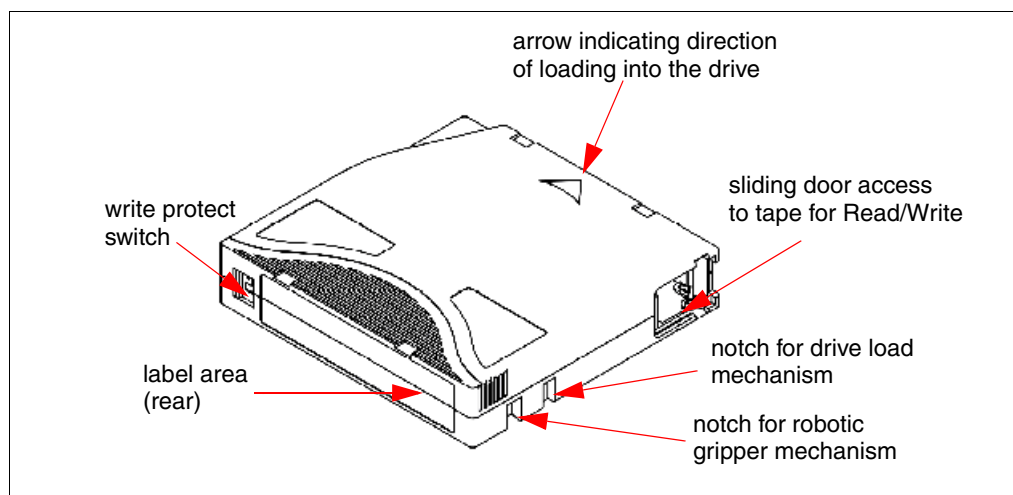
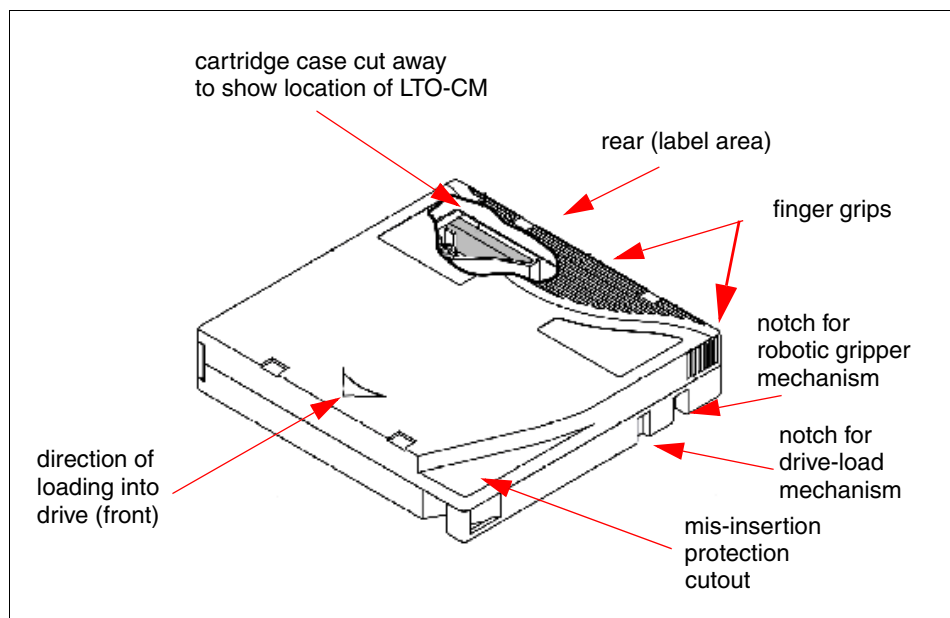
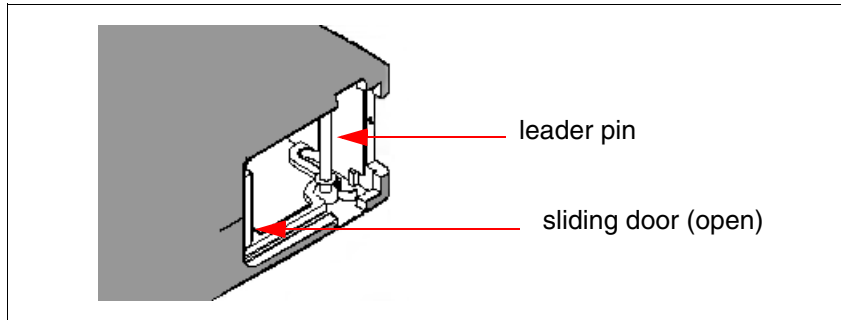

Figure 2-12 Ultrium cartridge view from top and rear
Figure 2-13 Ultrium cartridge view from top and front
Figure 2-14 Leader pin attached to the tape medium
Two views of the tape cartridge are shown in Figure 2-12 and Figure 2-13 on page 44.
Figure 2-13 shows several of the components of the cartridge.
- ▶ Sliding door: Cartridge door (shown in Figure 2-12 on page 43) that protects the tape from contamination whenever the cartridge is out of the drive. Behind the door, the tape is threaded onto a leader pin (shown in detail in Figure 2-14 on page 45), which is used to pull the tape from the cartridge for use. A locking mechanism prevents the media from unwinding when the cartridge is not located in the drive.
Information about the cartridge and the tape is written to the LTO-CM, which is a serial Electronically Erasable Programmable Read-Only Memory (EEPROM) with both read-only and rewritable areas. It is housed inside the cartridge casing at the left rear (label side) corner as illustrated in Figure 2-13 on page 44, which shows the interior of the cartridge casing.
Tape cartridges are often supplied with the labels already attached, or you can attach a label yourself. Operators must handle the cartridges and barcode labels in accordance with the instructions in the operator guides that are supplied with the products. You must ensure that labels are removed cleanly, reapplied carefully, in good condition, and not obscured or damaged. The Ultrium cartridge features a recessed area for the label (see Figure 2-12 on page 43). The label must be applied only in the recessed label area; if the label extends outside of the recessed label area, it can cause loading problems in the drive.
The write protect switch is located at the front of the cartridge to the left of the barcode label (see Figure 2-12 on page 43). The position of the write-protect switch on the tape cartridge determines whether you can write to the tape; you cannot write to the tape when the switch is pushed to the right. When the write protect switch is set to inhibit writing, a visual lock mark, such as a padlock, is visible.